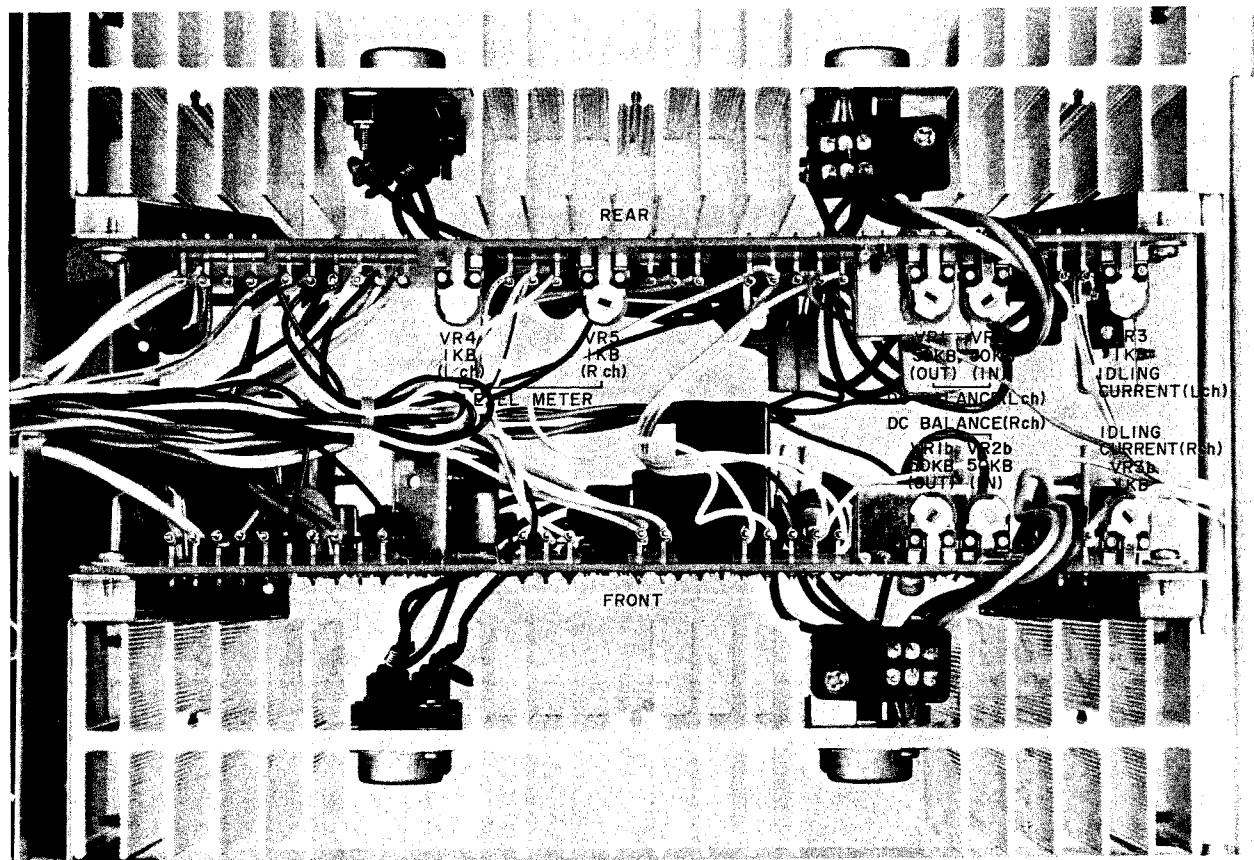
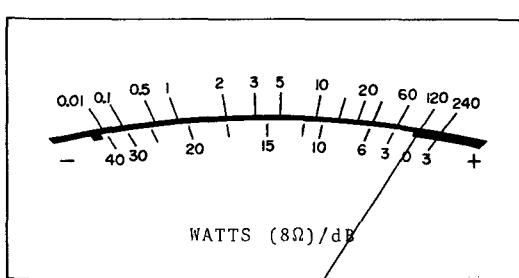

Fig. 14 Main Amp Adjust Point
Fig. 18 Level Meter
### 1. Idling Current Adjustment (Refer to Fig. 14, 15)
## 2. DC Balance Adjustment (Refer to Fig. 14, 16)
## 3. Level Meter Indication Adjustment (Refer to Fig. 14, 17, 18)
- 4) Now, adjust VR4 (Right) on the Main Amp P.C board (see Fig. 14) until each POWER LEVEL meter deflects to the mark "120". (see Fig. 18)